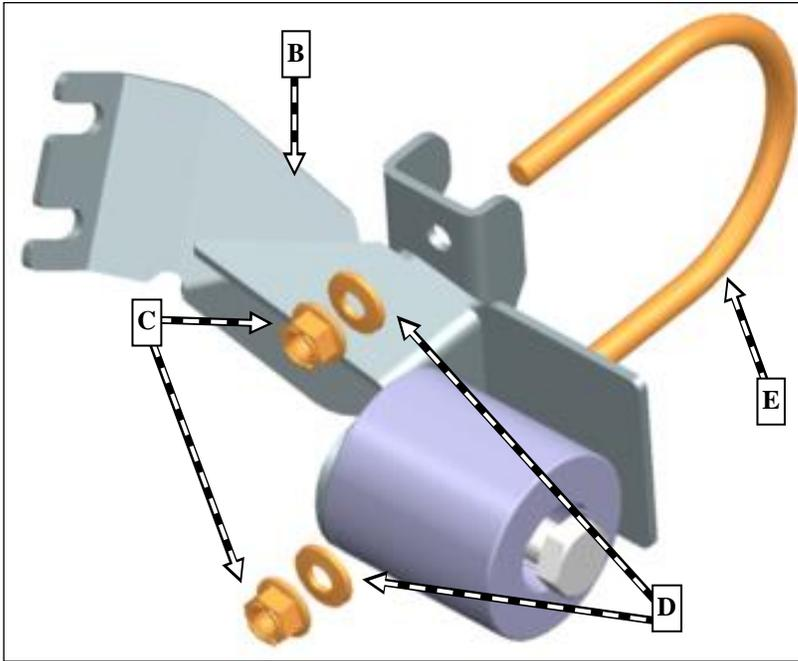

Figure 3
2.3. Prepare vibration damper bracket (B) for installation (Figure 3).
2.3.1. Remove nuts (C) and washers (D) from vibration damper bracket (Figure 3).
2.3.2. Remove U- bolt (E) from vibration damper bracket (Figure 3).